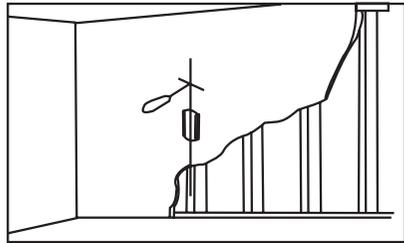

Fig 2b
Wooden wall(Fig 2b):
Using a awl or nail to make where the nails are located, as shown as fig.2b. Distance between two nails for fixing wall mount must not less than 12". Pre-drill these holes with a 5mm drill bit to a at least 80mm in deep hole. Please make sure these holes are level and located at center. Use wall mount as a template to mark the location of other three holes and drill the same holes. Fix the wall mount to the wall with 4 long bolts(O) and washers(Q).